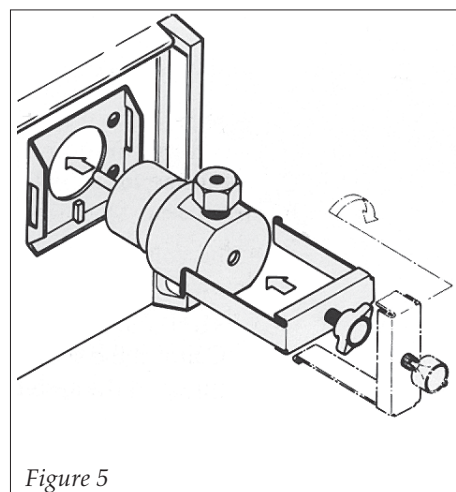

Figure 5
- Insert the pump head into the front aperture of the pump. See Figure 5. The notch at the bottom of the pump head body must be fitted on to the matching pin on the pump, just below the aperture. This notch ensures that the inlet port is on the bottom and the outlet port is on the top.